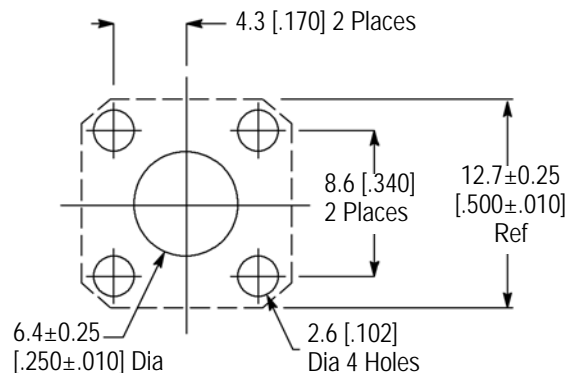

Figure 6
1. Cut the panel using the dimensions provided in Figure 6.